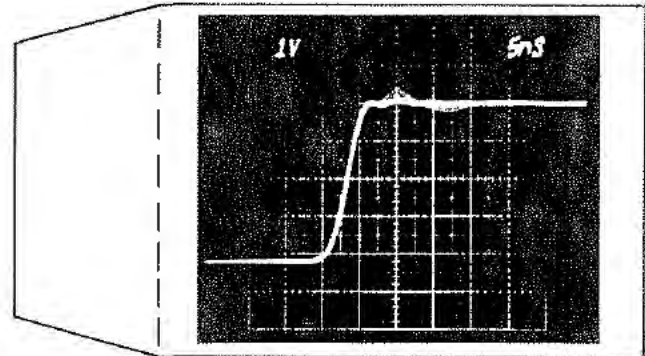

Fig. 9. Changes in the waveform as calibration adjustments are made are readily discernible in this Variable Persistence display.
- Observing the change in the signal while making calibration adjustments (Fig. 9)
The nomograph in Figure 9 is useful for selecting the writing speed needed to display a given sine wave or step risetime ( $t_r$ ) at a certain amplitude. For example, to display a 16 ns risetime signal three centimeters in amplitude requires a writing speed of  $180 \text{ cm}/\mu\text{s}$ .